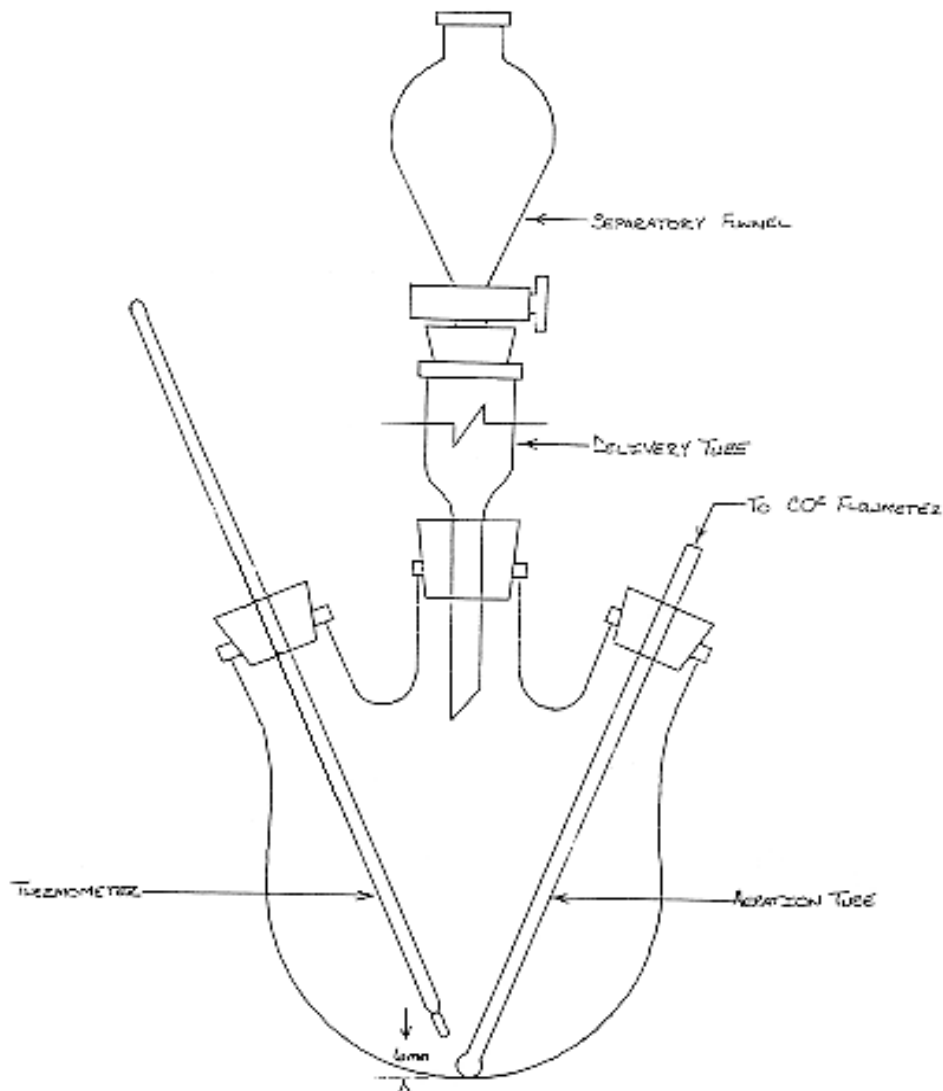

Figure 1
**c.3.a** Assemble the apparatus as shown in Figure 1.